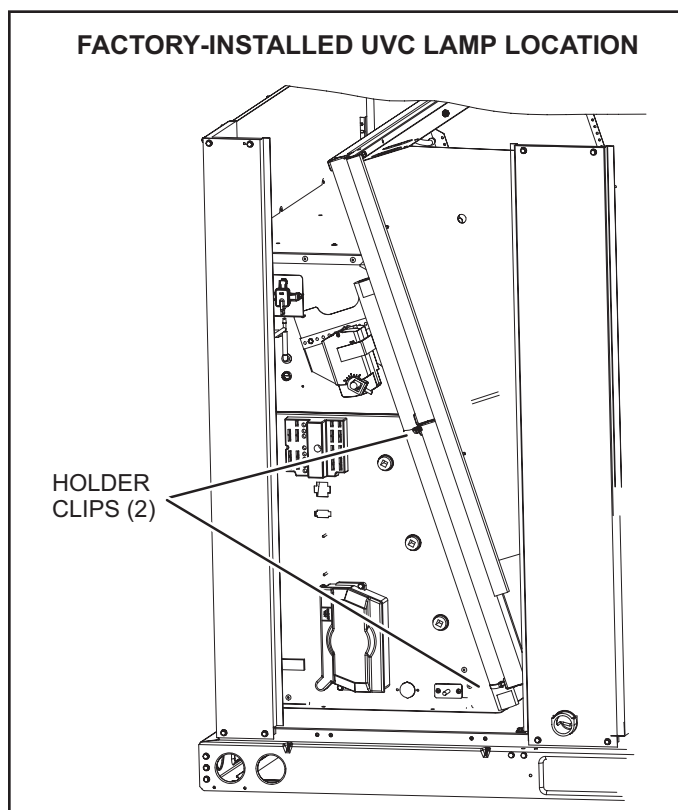

FIGURE 46
- 1 - Cut wire ties and remove the UVC lamp attached to the filter rack. See FIGURE 46.